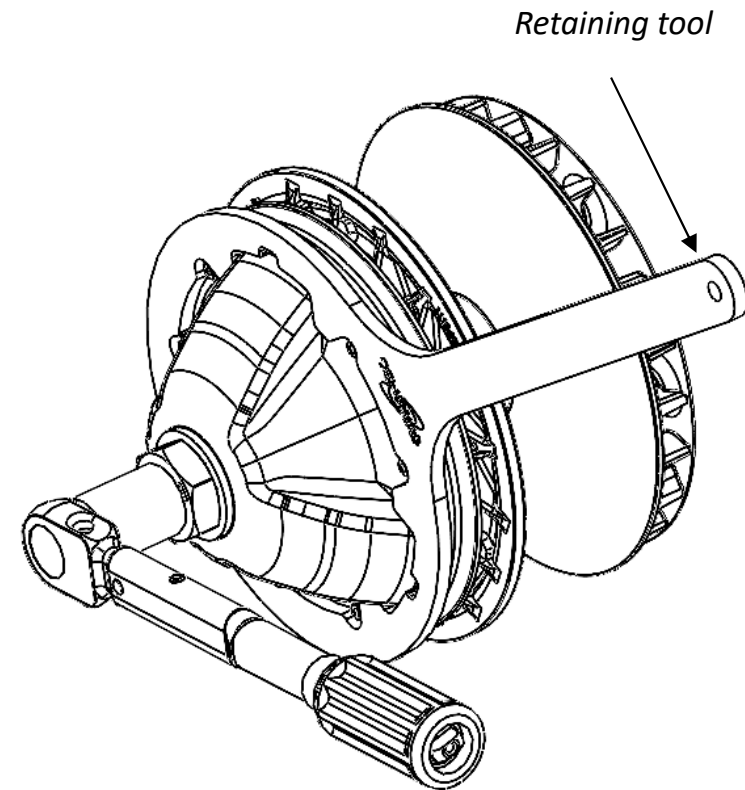

Figure 8
- To tighten the drive pulley, use the retaining tool (see figure 8) to lock the rotation.